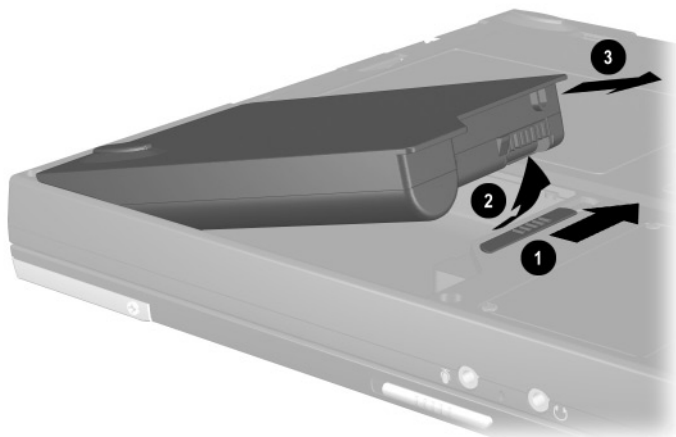

Figure 5-2. Removing the Battery Pack
- b. Slide the battery release latch ❶ toward the back of the notebook (Figure 5-2).
- c. Swing the right side of the battery pack up and to the left ❷.
- d. Remove the battery pack ❸.